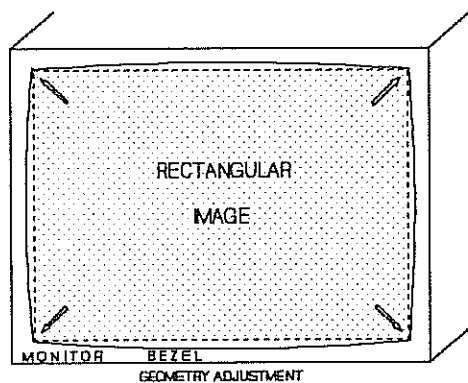

Figure 1
- (1) Apply a monitor circle with standard line rate video to the monitor.
- (2) Adjust the brightness potmeter (WM:R2) such, that the video lines become visible.
- (3) Adjust the image width (R8) such, that the displayed rectangular image formed by the video lines just fits in the monitor bezel. (See figure 1) This means that all of the video information is displayed.
- (4) Adjust the image height (R6) such that the raster just fits in the monitor bezel.
- (5) Adjust the linearity with R4 (vertical) and L4 (horizontal) to correct distortions of the circle.
- (6) Adjust the image to the centre of the bezel with horizontal-shift (R9) and with vertical shift (R5)